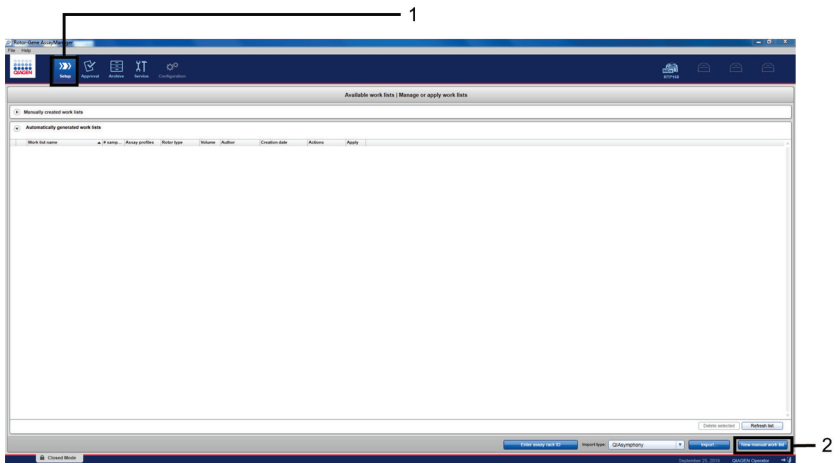

Figure 4. Rotor-Gene AssayManager work list setup. 1 = “Setup” tab. 2 = New manual work list.
4. In the "Setup" tab, select "New manual work list" to create a new work list (Figure 4).